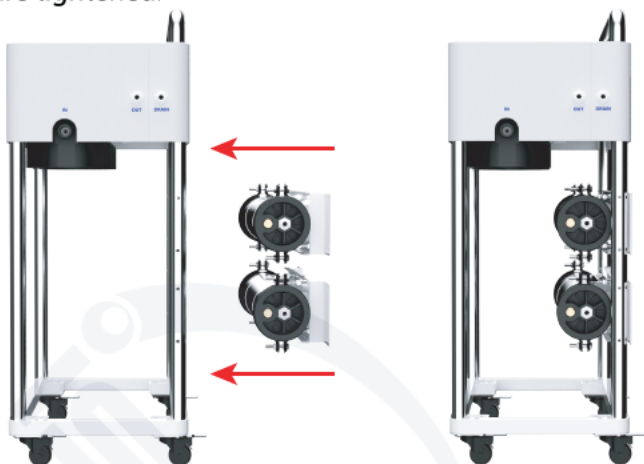

Figure 10.
5. Using M6\*50 screws with nuts and washers to attach the membrane housings to the rear frame pillars, as shown in Figure 10. Ensure the screws are tightened.